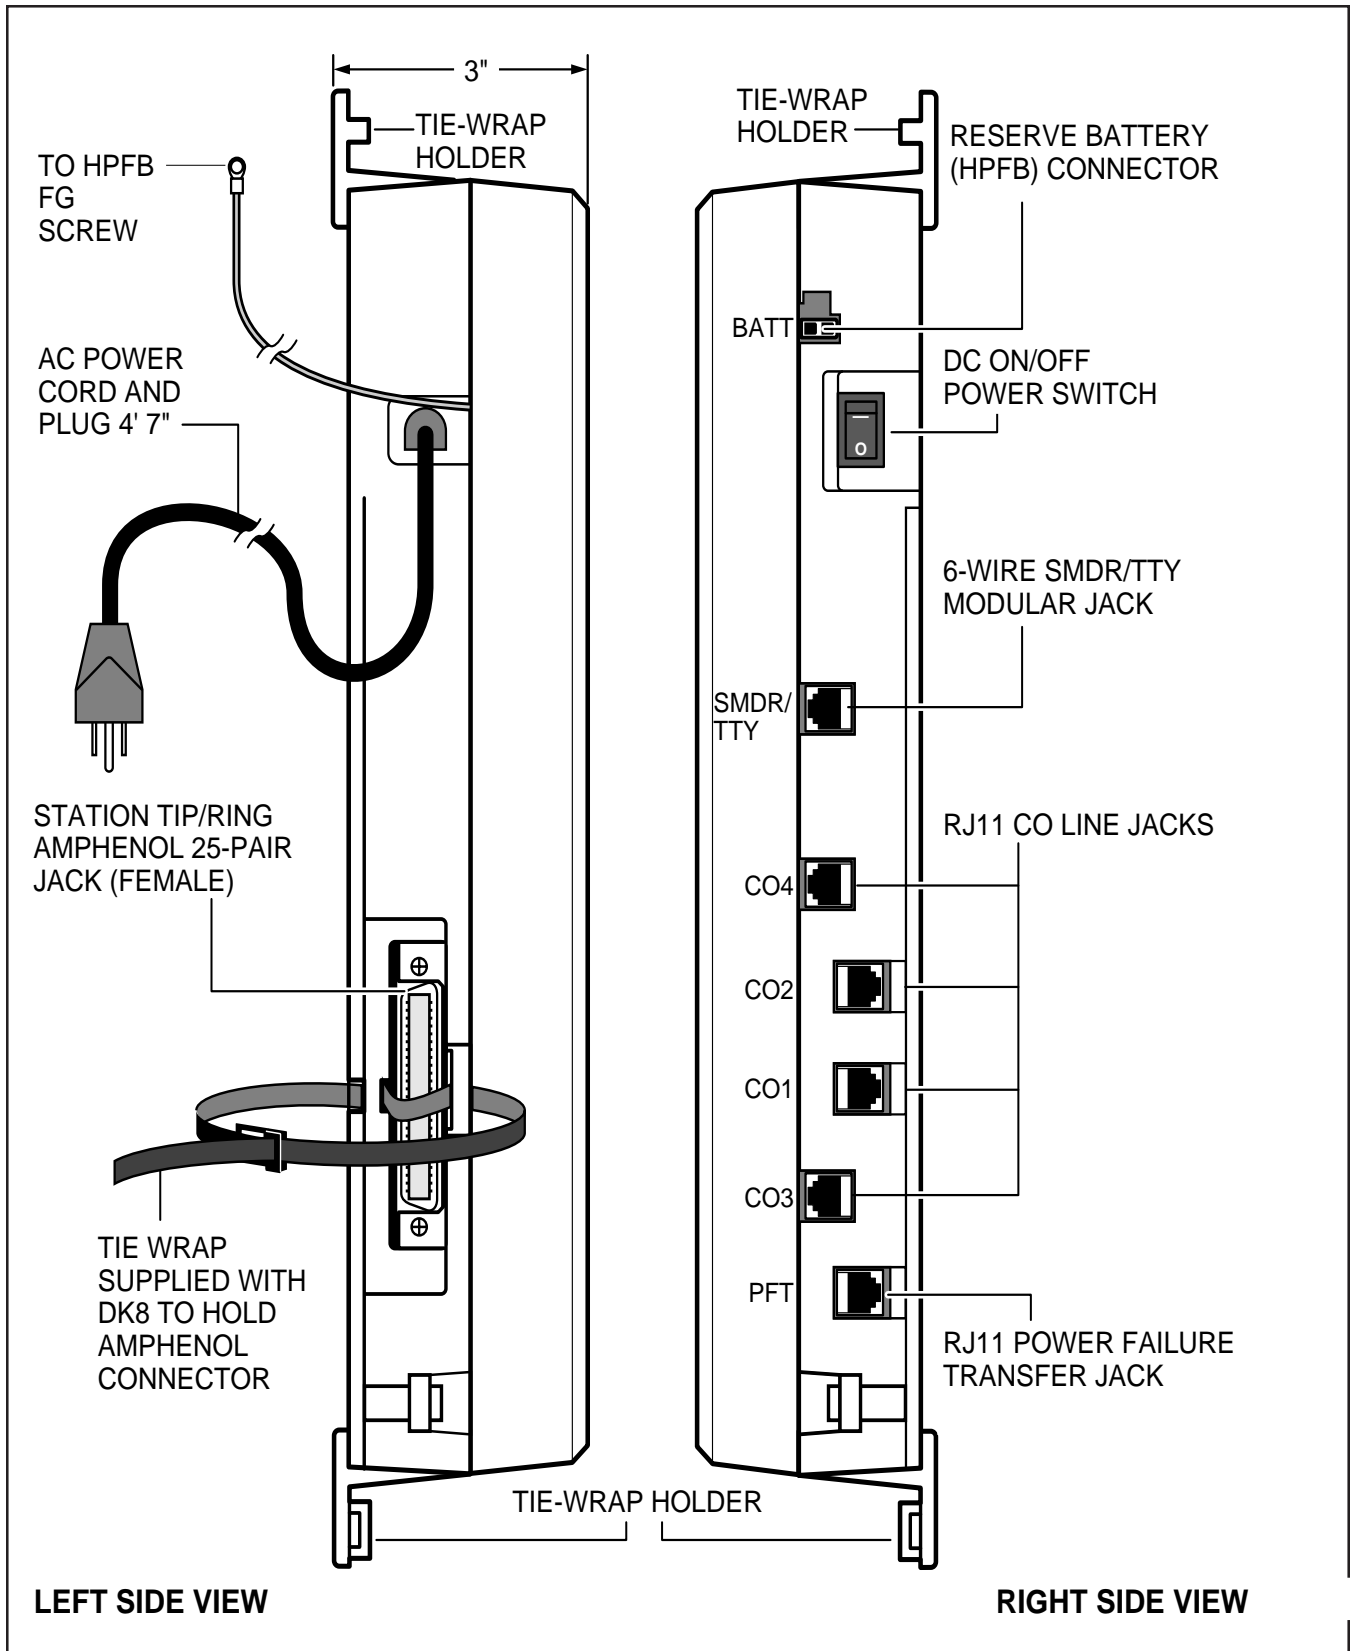

FIGURE 4-4
- 8) Connect applicable wiring (modular CO line cords, 25-pair amphenol connector cable, etc.) to the Key Service Unit. Route the wiring as shown in Figure 4-4, and then fasten wiring to the unit with the tie wraps that come with the Key Service Unit. (See Section 100-816-208, for additional wiring information.)
Figure 4-4 shows cables routed to the right; they may also be routed to the left, depending on the location of the MDF.
2.30 Installing the Reserve Power Battery and Charger (HPFB) (Figure 4-4)
- 8) Dress and tie-wrap the HPFU cables per Figure 4-4.